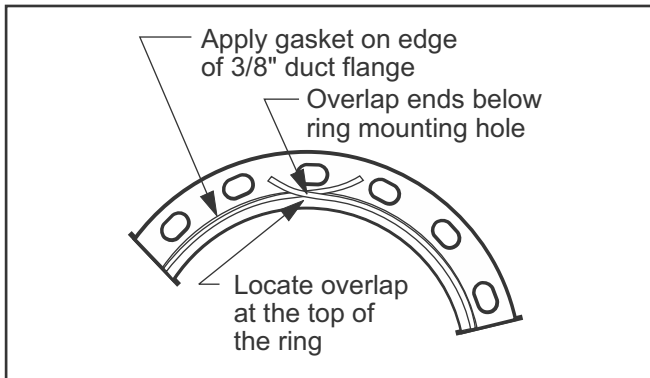

Fig. 9: Gasket installation for fixed rings 32"-100" dia.
4. Install Gasket 32"-106": To start installation, snap the gasket to peel the backing near one end. Press the exposed adhesive side of the gasket firmly onto the duct flange below one of the angle ring holes at the top of the ring. Smoothly adhere the gasket around the outside edge of the 3/8"-3/4" wide duct flange. Overlap the end between 1" and 2". Then run a finger around the gasket to seat the adhesive. (Fig. 9)